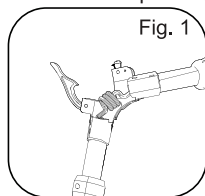

Fig. 1
1. Unfold the collapsible handle so that the shaft is in a continuous straight line. ( Fig. 1)